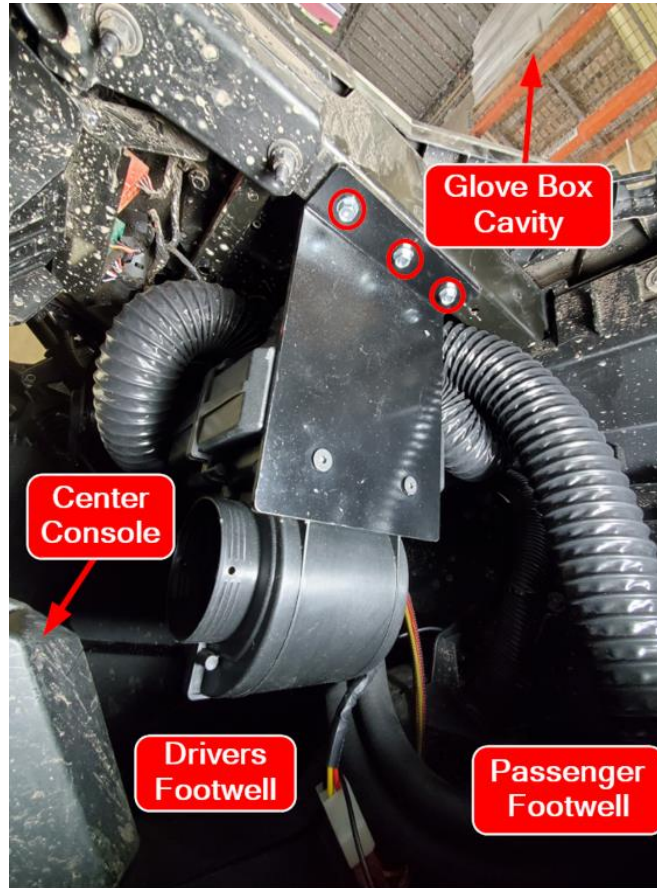

Figure 5
10. Use the provided 1/4" Self-Drilling Screws to mount the main mount plate to the left side support bar for the glove box as shown in **Figure 5**.